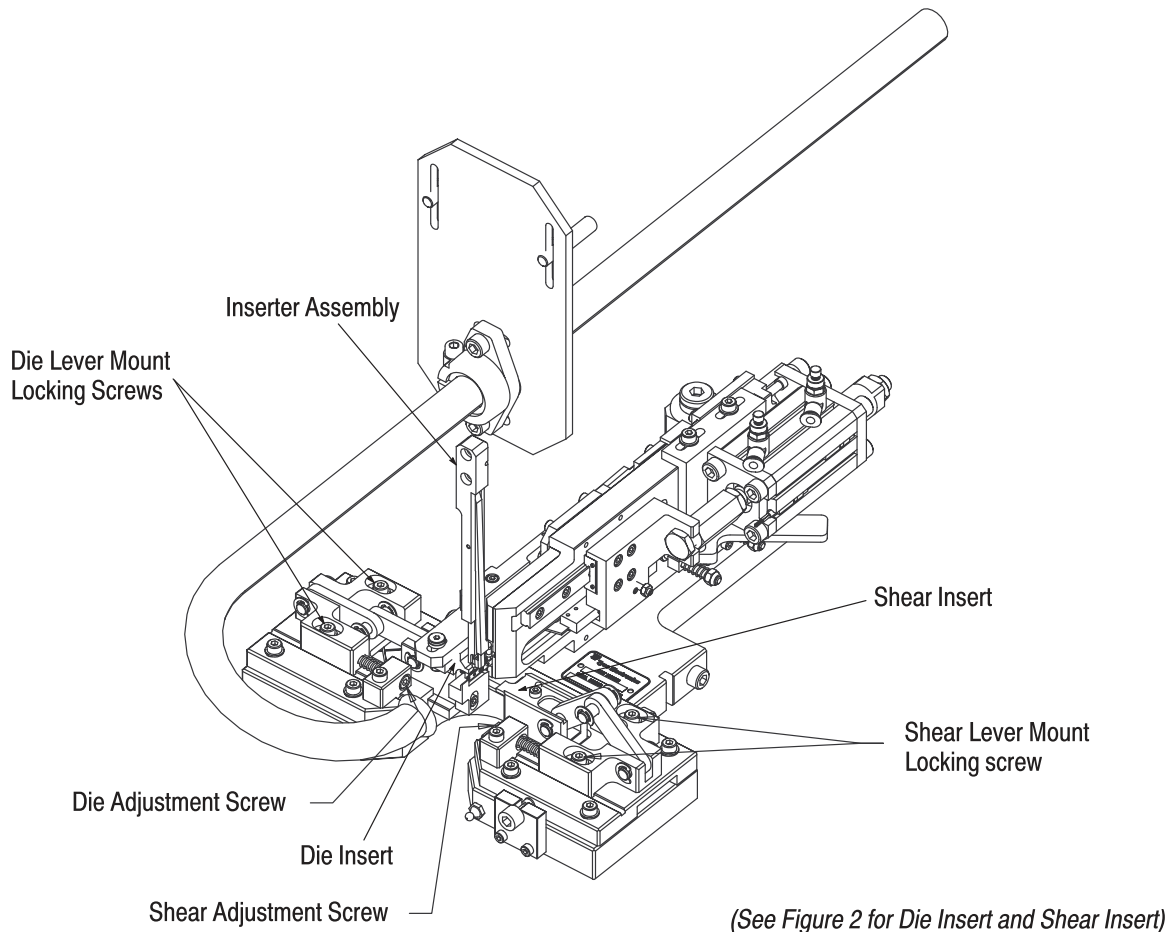

Figure 17
5.7. Die Travel Adjustment (See Figure 17)
5.8. Shear Travel Adjustment (See Figure 17)
5.10. Lower Tooling Tip Height Adjustment (See Figure 17)